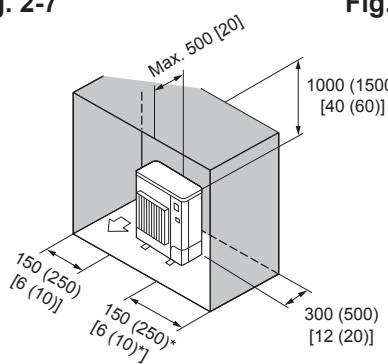

Fig. 2-11
⑥ Obstacles at rear, sides, and above only (Fig. 2-11)